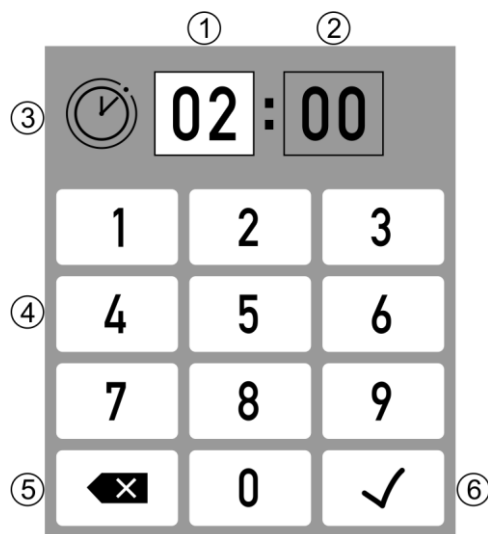

Fig. 5: Menu for time settings
The time settings menu is used to set various values and may appear at multiple points of the menu navigation. The current submenu is shown at position 5 (refer to fig. 5).
1. Touch one of the time fields 1/2 (refer to fig. 5) to activate.
2. Enter the preferred time in the number field (4).
3. The value is saved once you press the enter key (6).